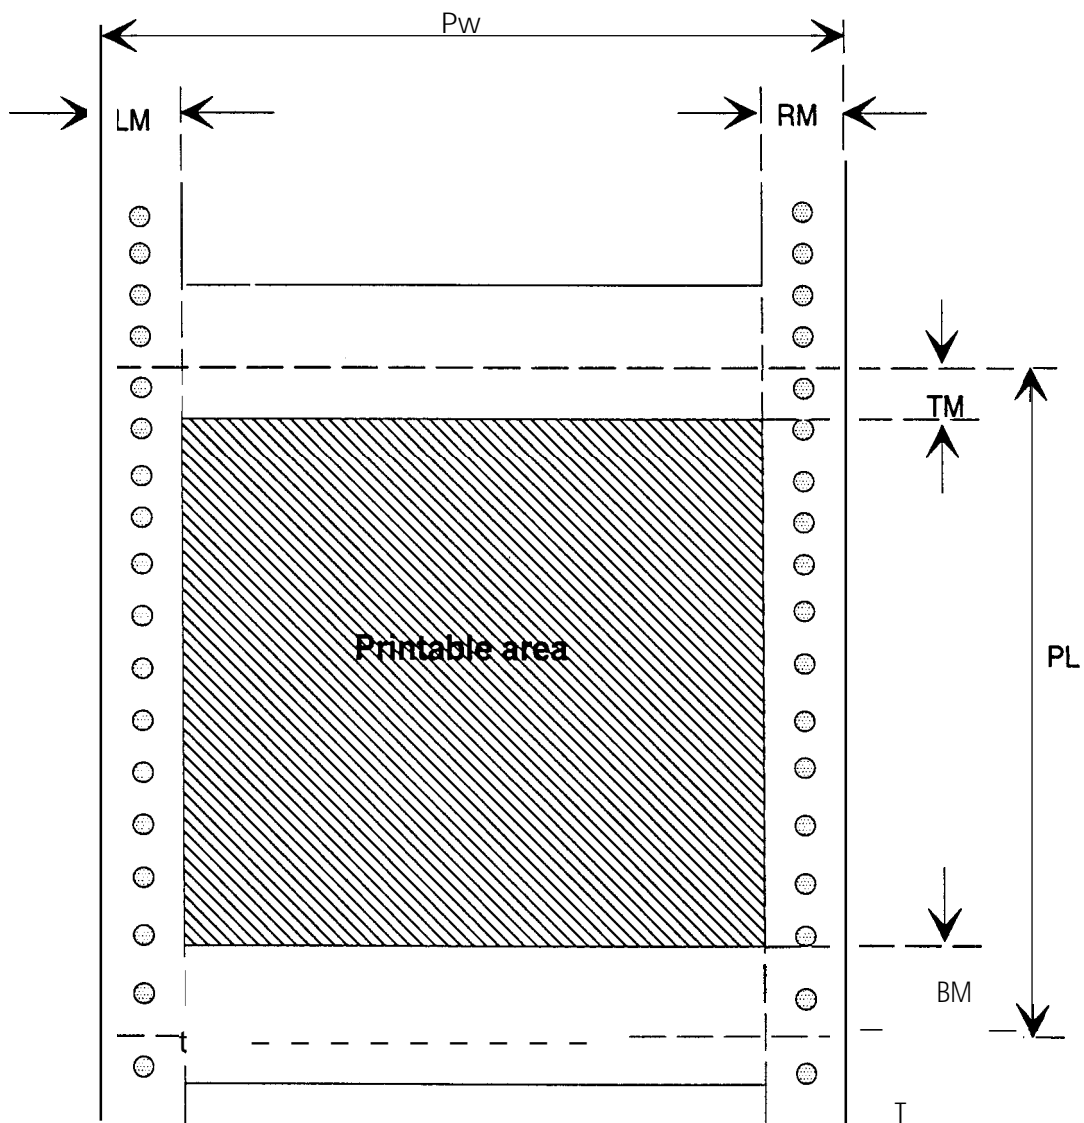

Figure 1-5 Printable Area for Continuous Paper
- . Printable size and area The figure above is the printable size for the labels. The printable area for the base sheet containing the labels depends on conditions in Figure 1-5 and Table 1-15.